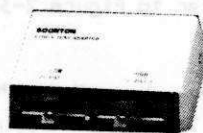

Figure 2-6. 5110-1 Test Adapter
a. 5110-1 Test Adapter. The adapter plugs into the instrument and is used to measure double or single lead configuration for small-sized 2 terminal tubular devices and is very convenient to use because it can be connected or disconnected in a short time. The adapter can be used for all ranges; but, should not be used for measuring micro capacitance or extremely small impedances. Refer to Figure 2-6.